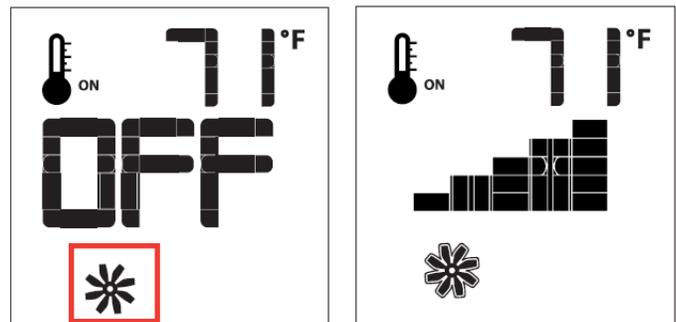

Figure 38. Fan Speed Control
The fireplace is equipped with optional hot air circulating fans. The speed of the fans can be controlled by the Proflame system. The fan speed can be adjusted through six (6) speeds. To activate this function use the Mode Key, see Figure 26, to index to the fan control icon, see Figure 38. Use the Up/Down Arrow Keys to turn on, off, or adjust the fan speed. A single "beep" will confirm reception of the command.